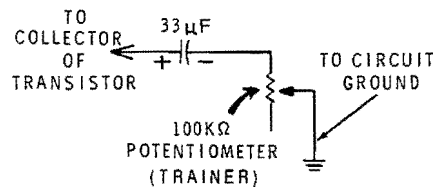

Figure 1-37
15. Turn off your Trainer. Then connect the positive side of a 33 microfarad capacitor to the transistor's collector and connect the negative side of this capacitor to the 100 kilohm potentiometer. Then connect the center terminal (wiper) of the 100 kilohm potentiometer to circuit ground. These connections are shown in Figure 1-37.
17. Turn off your Trainer and disconnect the 33 microfarad capacitor and 100 kilohm resistor that you previously installed as shown in Figure 1-37. Do not disturb the setting of the 100 kilohm potentiometer.